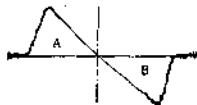

Fig. 3
2. Short-circuit the OSC stage as described in Caution 1. Adjust the primary core (lower) of T201 so that the output is like the S curve shown in Fig. 3 with A and B symmetrical with respect to C. Adjust the secondary core (upper) so that the straight line of the S curve can be achieved. At the time of adjustment in Caution 1 and 2, center of the marker will sometimes not correspond to that of the waveform because of the ceramic filters used.